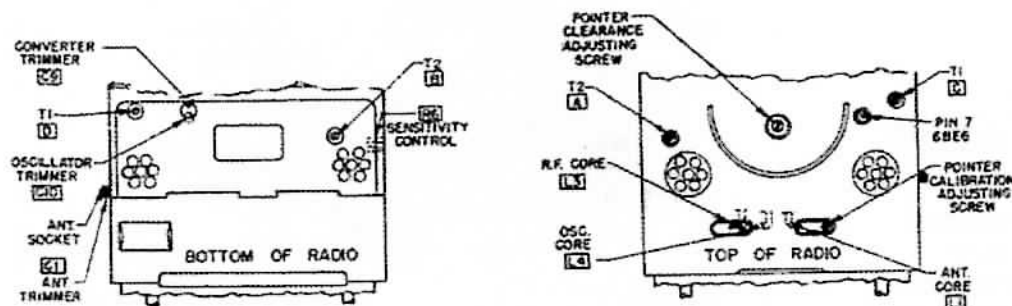

FIG. 4 ALIGNMENT POINTS
2.	Check dial calibration. If calibration is off after step 1 alignment, make corrections with calibration adjustment screw. (See Figure 4)